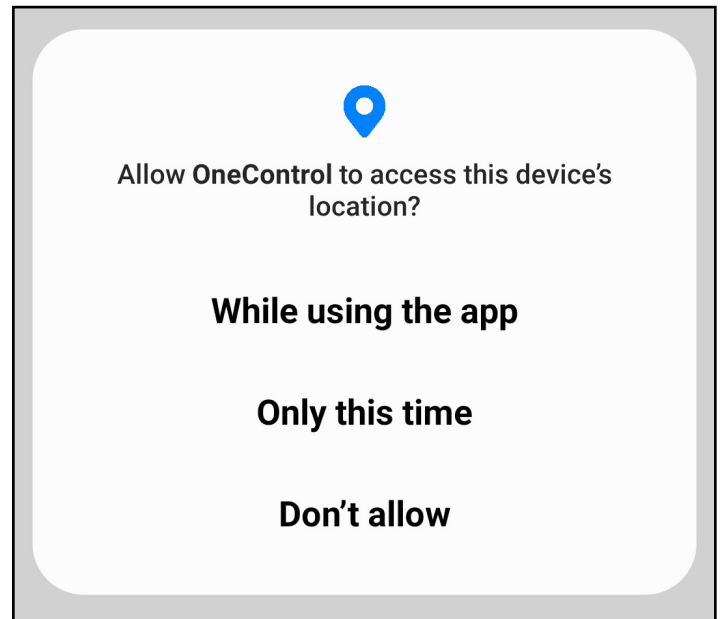

Fig.4
5. The app will ask permission to look for Bluetooth devices such as the LP Sensor (Fig.4). Press "OK" to grant permission for OneControl and the LP Sensor to communicate.